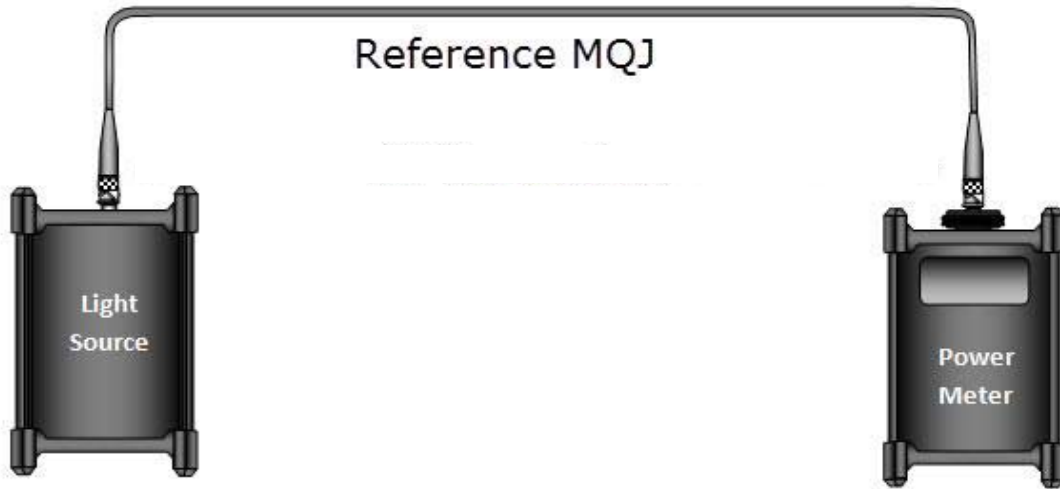

FIGURE A-1 - REFERENCE MEASUREMENT (P1)
A.2.1.1 MEASURE THE OPTICAL LOSS OF THE ST CONNECTOR ENDS AS FOLLOWS (SEE FIGURES A-1 AND A-2 BELOW)
- ii. CONNECT END "A" (ST) OF THE ST TO LIGHT DUTY CONNECTOR (ST/LC) REFERENCE MQJ TO THE LIGHT SOURCE
- iv. RECORD THE OPTICAL POWER AT THE METER AS P₁ (SEE FIGURE A-1)